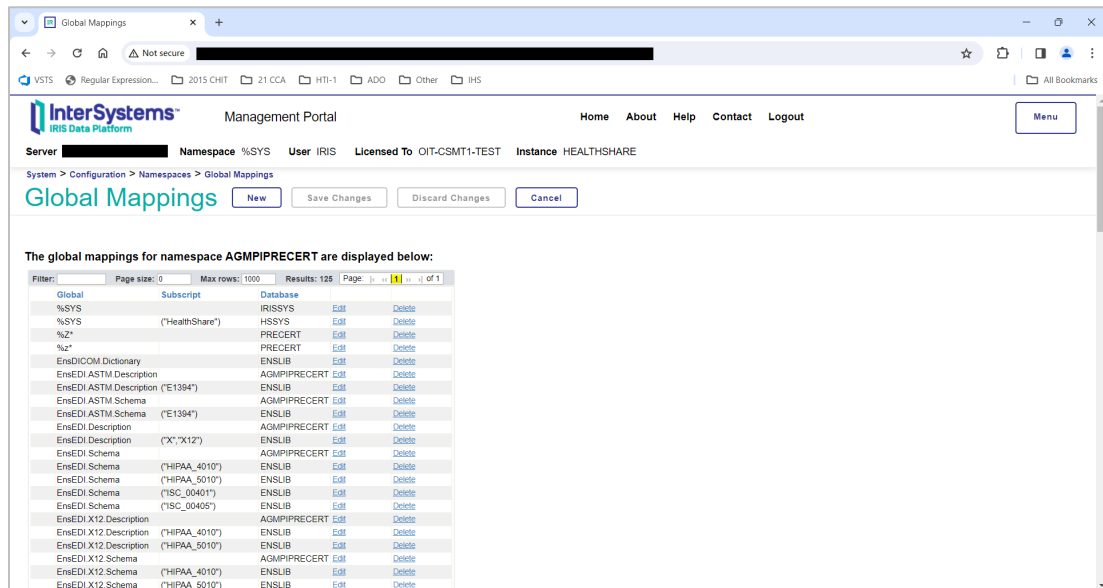

Figure 4-2: **Global Mappings** page
- On the **Global Mappings** page, click **New** to display the **Global Mapping** dialog, as shown in Figure 4-2.